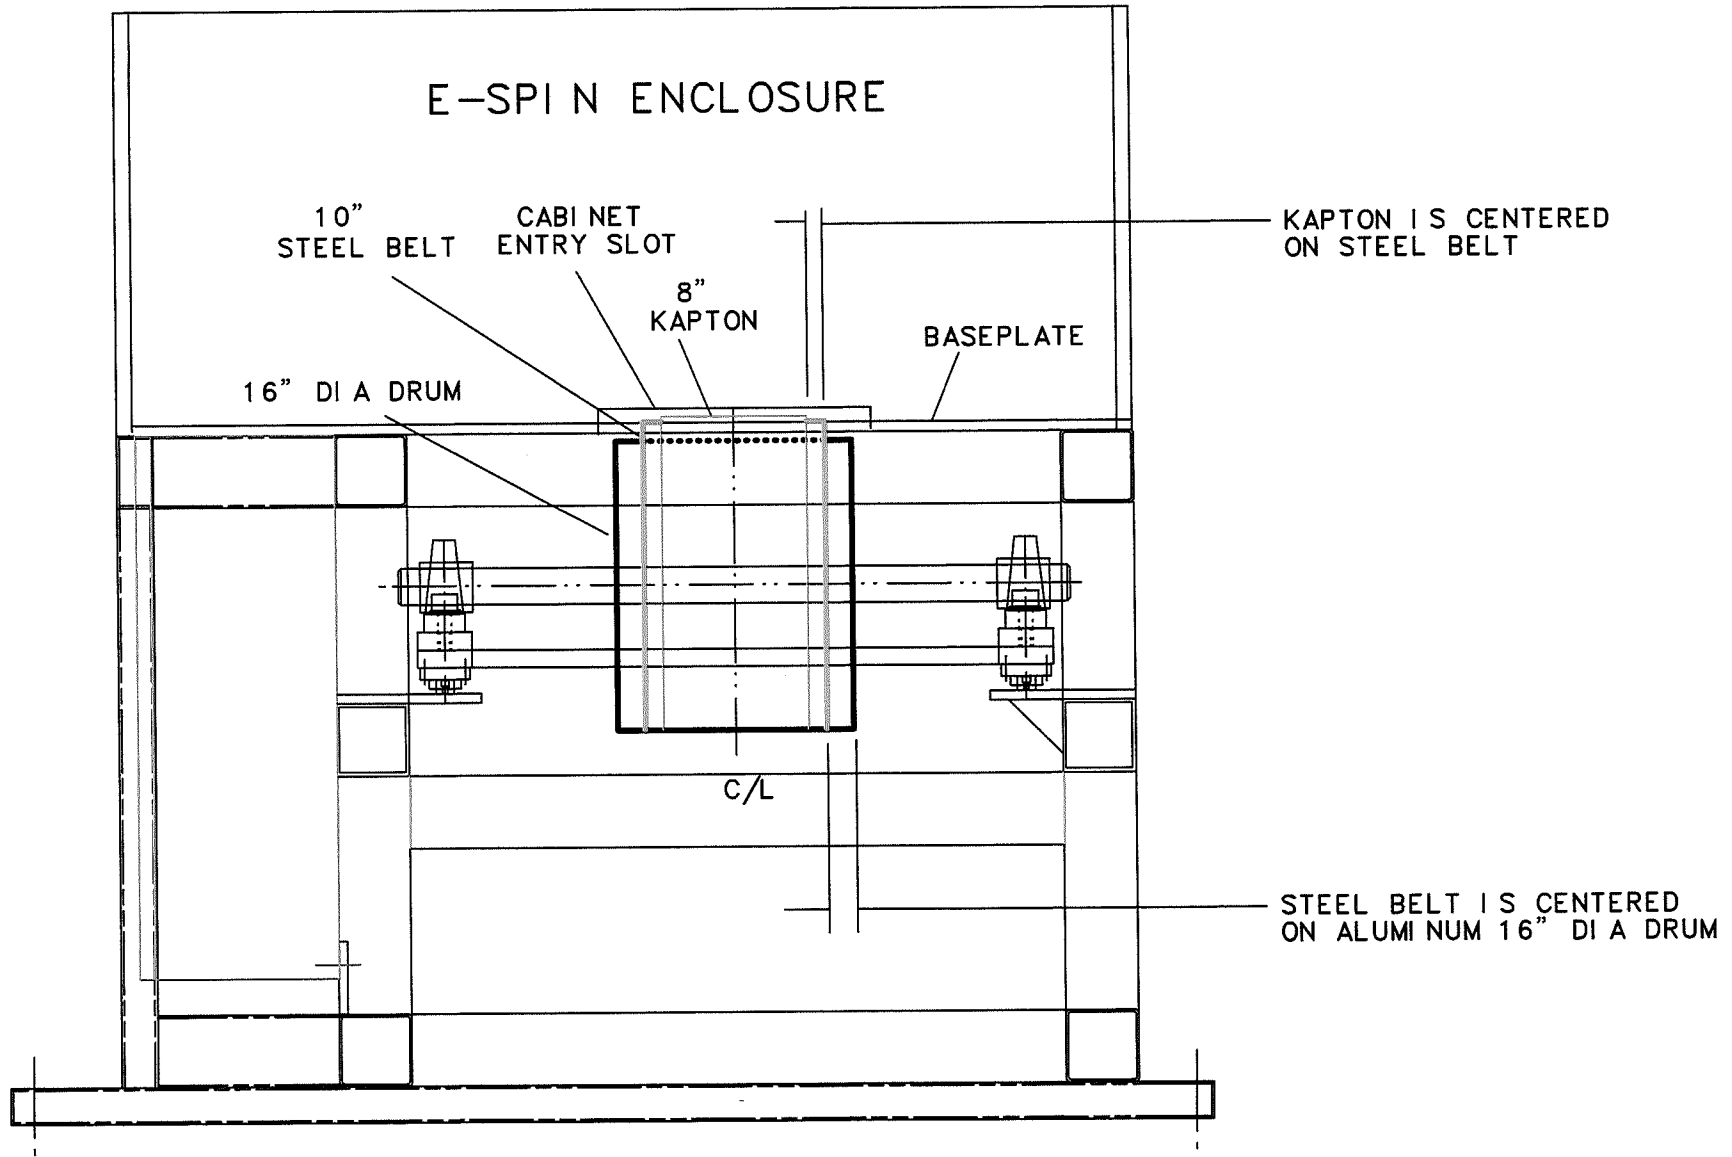

FIG 4
15. BEFORE COMPLETING THE KAPTON THREADUP, CHECK TO SEE THAT THE STEEL 10" BELT IS CENTERED THRU THE MACHINE AND THAT "BELT TENSION" SWITCH ON THE OPERATOR PANEL IS ON. THE STEEL BELT SHOULD BE TAUGHT AND NOT LOOSE. BOTH ENDS OF THE MACHINE SHOULD HAVE THE STEEL BELT AT APPROXIMATELY CENTERED ON THE 16" DIAMETER DRUMS. FIG. 4 OPEN BOTH OVEN COVERS AND OPEN EXIT NIP BY RELEASING THE HOLD DOWN SCREWS ON BOTH SIDES OF THE NIP FRAME.